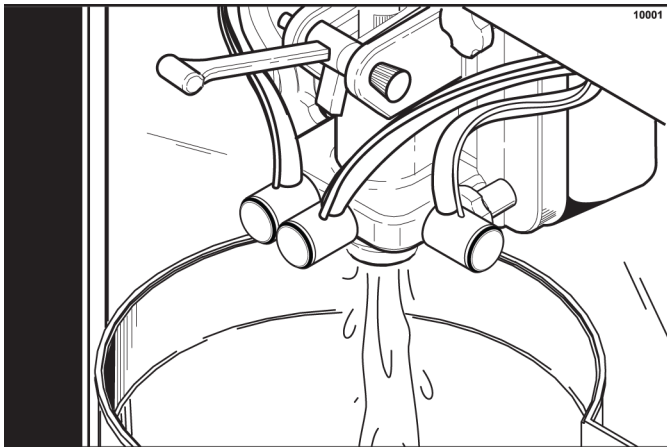

Figure 6-69
4. With a pail under the door spout, press the WASH and PUMP keys. Open the draw valve and start to drain the product from the freezing cylinder and mix hopper. (See Figure 6-69.)